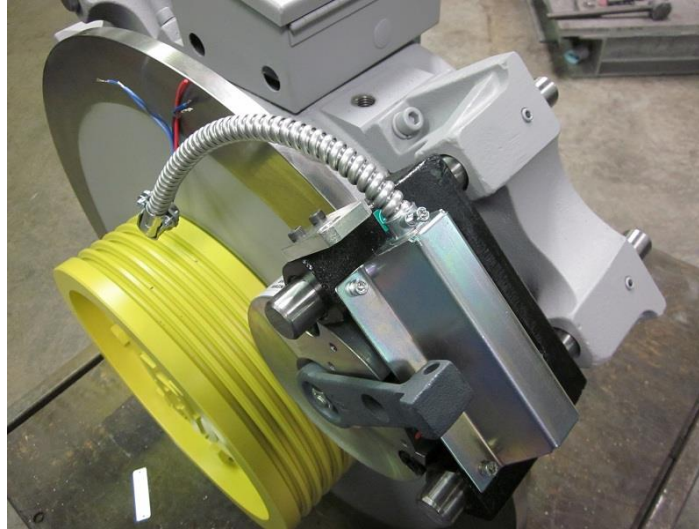

Figure 6 (manual brake release cable removed)
- Once the manual brake release cable hardware has been removed and loosened, slide the brake release cable out of the brake. Refer to Figure 6.